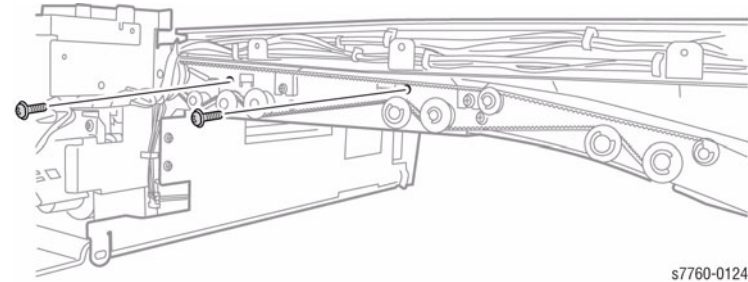

Figure 1 Removing the Horizontal Transport Center Tray
5. Removing the Horizontal Transport Center Tray (Figure 1).
- a. Remove the 2 screws and the Horizontal Transport Center Tray (Figure 1).